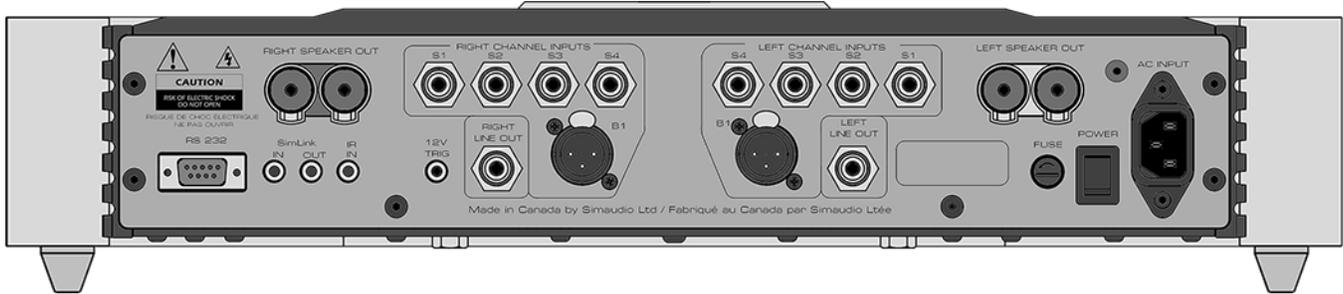

Figure 2: Rear panel of MOON 600i v2 Integrated Amplifier
The rear panel of the **MOON 600i v2** dual-mono integrated amplifier will look similar to Figure 2 (above). There are two rows of connectors; the upper row contains one pair of heavy duty gold-plated speaker binding posts for each channel to connect to your loudspeakers. In between these binding posts are four (4) pairs of single-ended RCA inputs labeled S1, S2, S3, and S4. This layout is the result of **600i v2's** dual-mono design, the left channel inputs/outputs are grouped together on one side and the right channel inputs/outputs are grouped together on the opposite side.